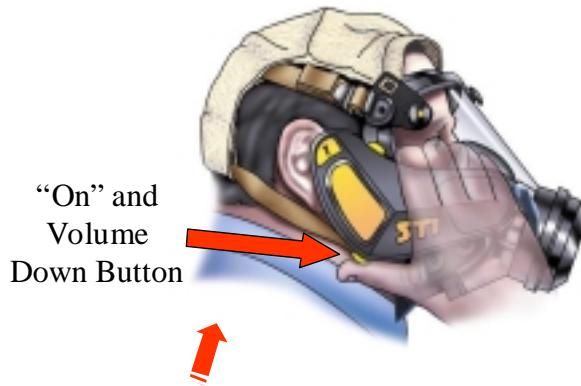

FIGURE 10
3. To turn on the mask communicator **press and hold** the small round yellow button located on the bottom of the unit (See Figure 10) until you hear a BEEP (about one second). You will hear a beep and the indicator light will briefly flash.